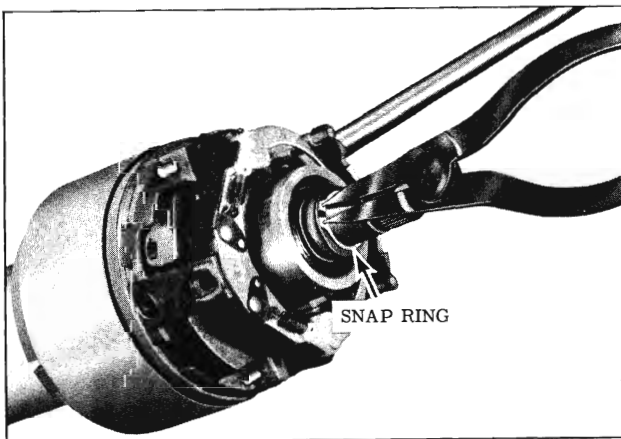

Fig. 4-86 Removing Upper Shaft Retaining Ring
4. Remove the upper shaft snap ring. (Fig. 4-86)